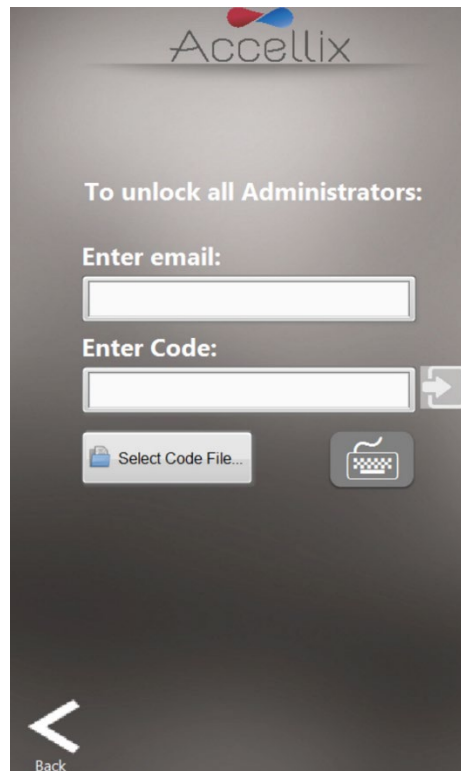

Figure 59: Reset Admin Passwords screen
Pressing this button will display the screen shown in Figure 59 Reset Admin Passwords screen:
To unlock all Administrators, email [support@accellix.com](mailto:support@accellix.com) to request a code. Enter the same email address used to contact Support and type in the unlock code in the **Enter Code** field (Figure 59).
**Note:** Accellix will also send a file containing the code which can alternatively be used instead of typing the code in manually. To use the code file, click on **Select Code File** icon (Figure 59) to select the file.